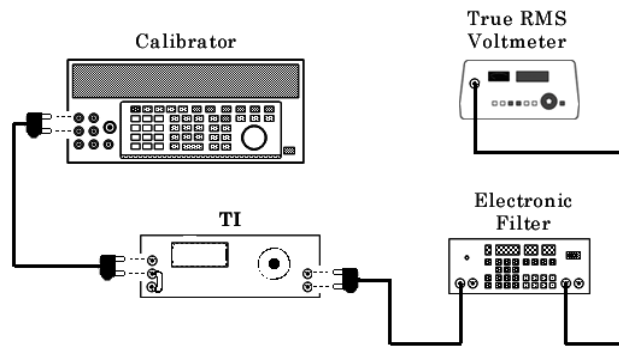

Figure 3. Fundamental frequency rejection - equipment setup.
(1) Connect equipment as shown in figure 3.
(2) Position TI controls as listed in (a) through (g) below: